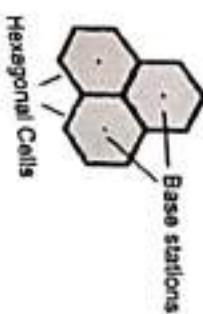

Fig. Q.41.1 Cells
- The typical cell covers only several square kilometers and contains its own receiver and low-power transmitter. As shown in the Fig. Q.41.1, the cells are hexagons with the repeater and base station at the center.